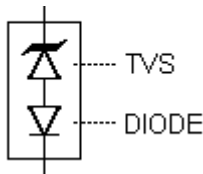
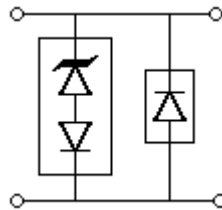

FIGURE 2
FIGURE 3
The TVS low capacitance device configuration is shown in Figure 2. As a further option for unidirectional applications, an additional low capacitance rectifier diode may be used in parallel in the same polarity direction as the TVS as shown in Figure 3. In applications where random high voltage transients occur, this will prevent reverse transients from damaging the internal low capacitance rectifier diode and also provide a low voltage conducting direction. The added rectifier diode should be of similar low capacitance and also have a higher reverse voltage rating than the TVS clamping voltage V_C . The Microsemi recommended rectifier part number is the "ELCR80" for the application in Figure 5. If using two (2) low capacitance TVS devices in anti-parallel for bidirectional applications, this added protective feature for both directions (including the reverse of each rectifier diode) is also provided. The unidirectional and bidirectional configurations in Figure 3 and 4 will both result in twice the capacitance of Figure 2.